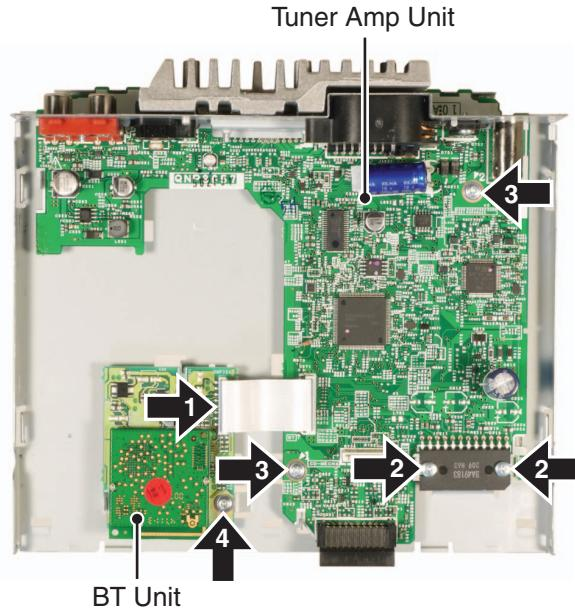

Fig.3
● Removing the Tuner Amp Unit and the BT Unit (Fig.3)
4. As shown in Fig 3, move the rear end of the feeding screw laterally and then upward, to remove it from the outer holder.